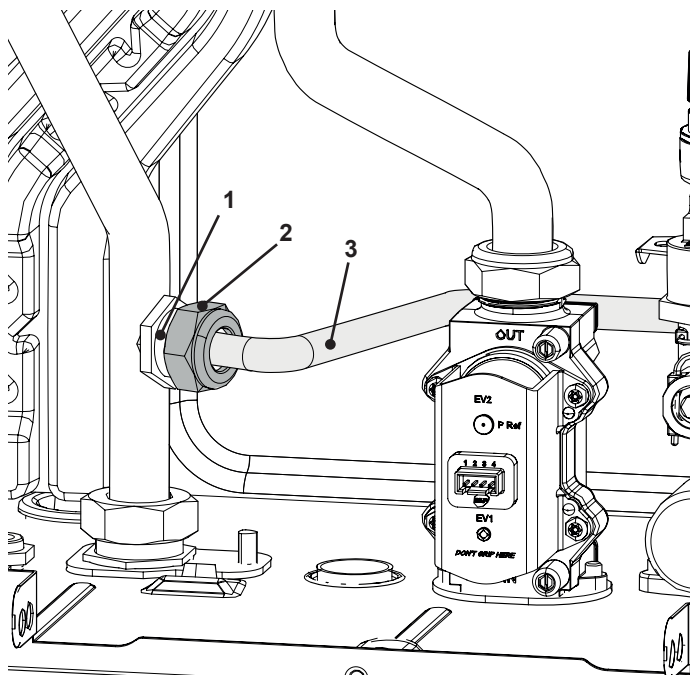

Figure 13.2
- 3 Unscrew the connector "2", rotate the pipe "3" and pull the by-pass valve "1" (Figure 13.2).
- 4 Reassemble the by-pass valve as illustrated in Figure 13.2 reversing the order of removal.